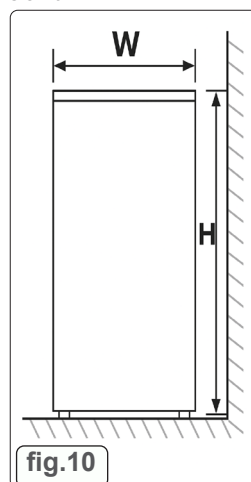
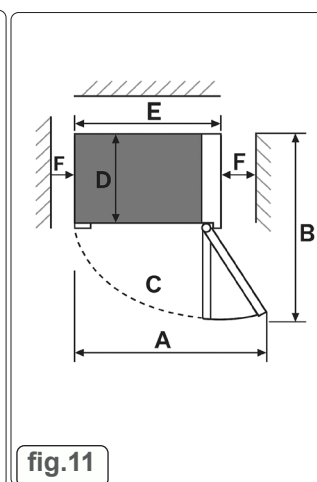

fig.10
fig.11
- **NOTE:** Fig.10, Fig. 11 illustrate the space required around the unit installation.